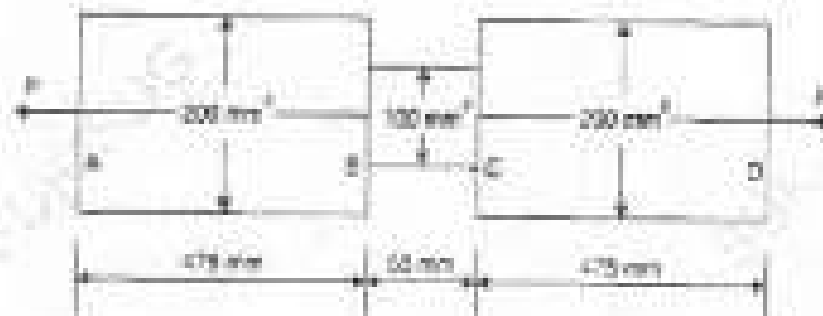

Fig. 5
- b) The maximum stress produced by pull in bar of length 1 m is 150 N/mm^2 . The area of cross sections and lengths are as shown in fig 5. Calculate the strain energy stored in a bar if $E = 2 \times 10^5 \text{ N/mm}^2$ [8]